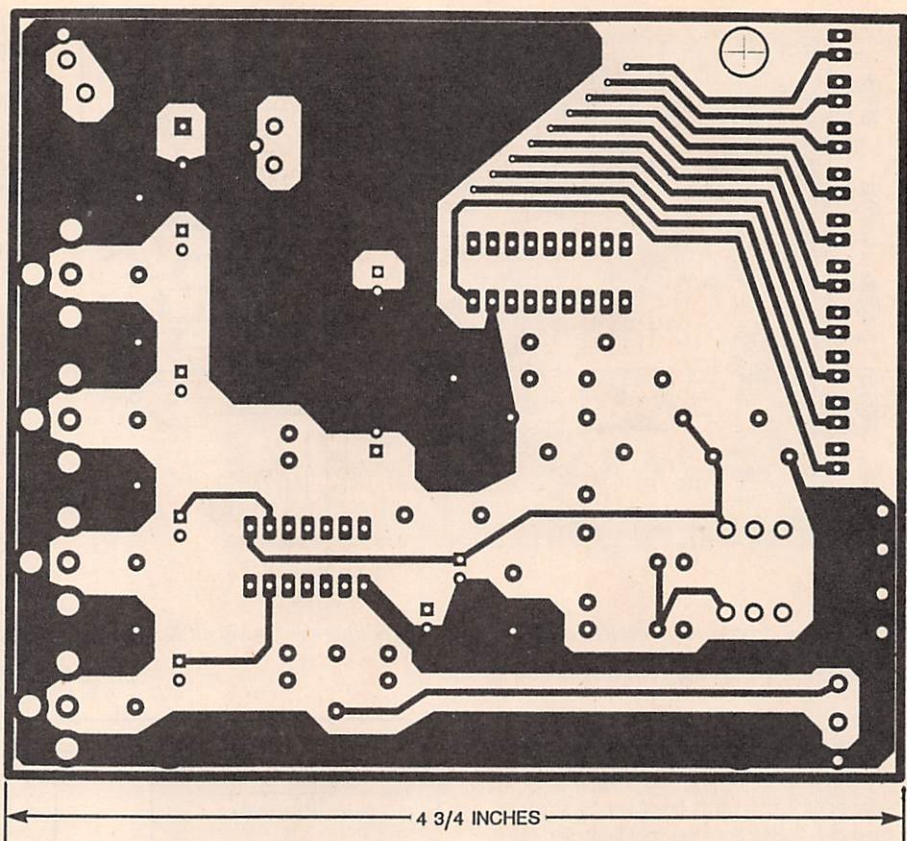
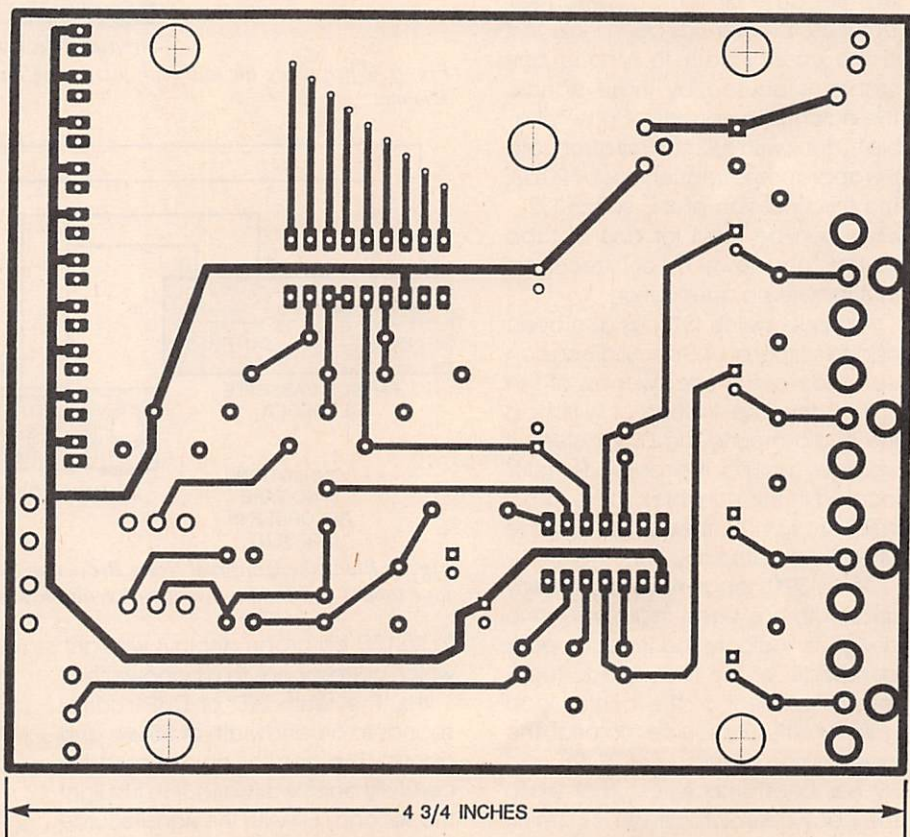

Fig. 3. Here is the component side of the Universal Noise Reduction System's double-sided board.
Fig. 4. Here is the solder side of the board. It is shown full size.
**Construction.** The Universal Noise Reduction system is built using a double-sided PC board. The component side of the board is shown in Fig. 3; the solder side is shown in Fig. 4. Once you